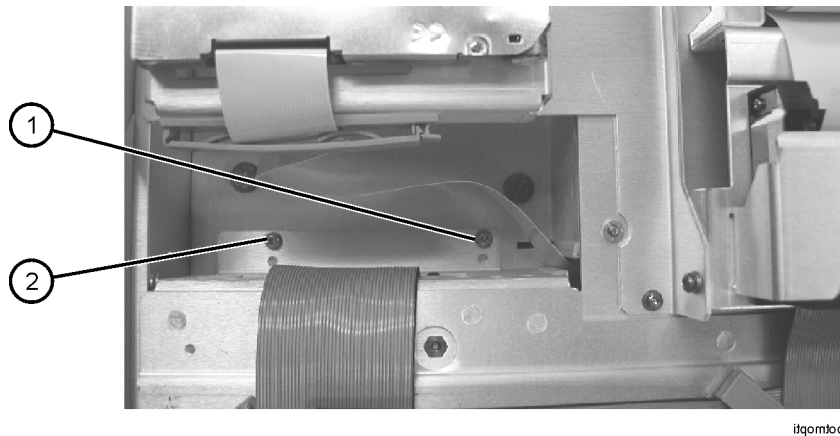

Figure 3-63. Removing the screws fastening the optical assembly to the top of the instrument
- 3 Remove the two T-10 TORX screws fastening the optical assembly to the top of the instrument chassis. The screws are located to the rear of the floppy disk drive as shown in Figure 3-63.
- 3** Remove the two T-10 TORX screws fastening the optical assembly to the top of the instrument chassis. The screws are located to the rear of the floppy disk drive as shown in Figure 3-63.